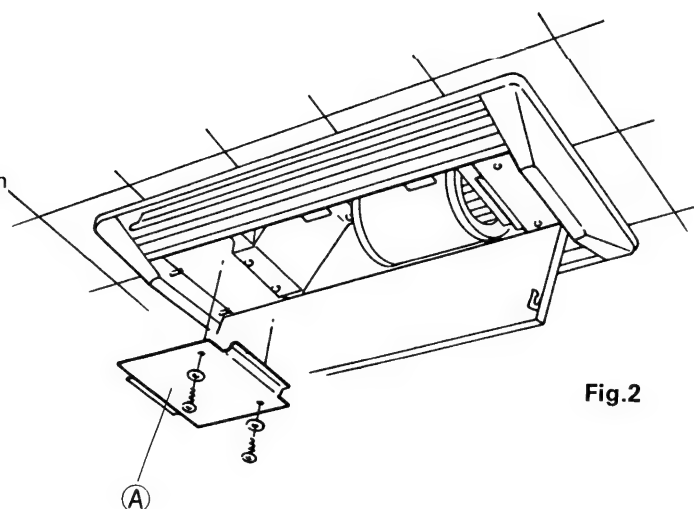

Fig.2
- ③ The electrical component box becomes accessible when the cover (A) (black color) is removed. Fig.2